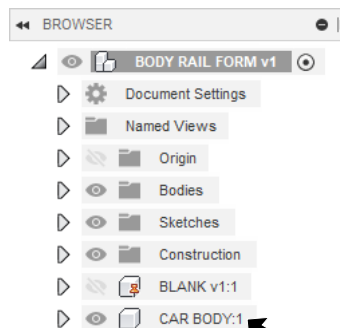

Fig. 3
Step 5. Rename new Component  **CAR BODY**, Fig. 3. To rename, slowly double click.